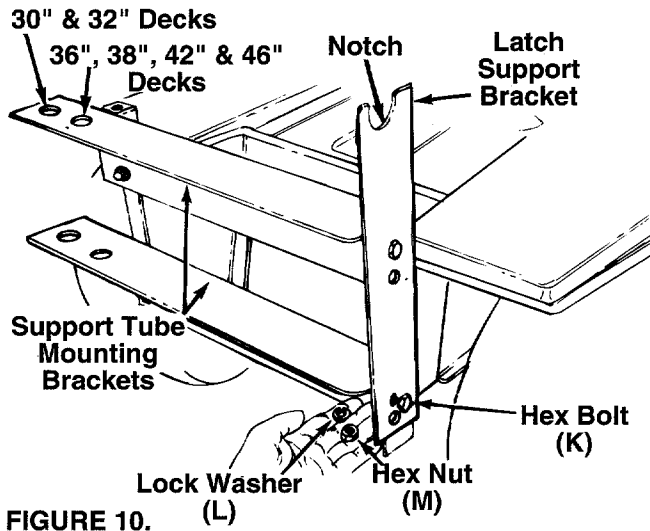
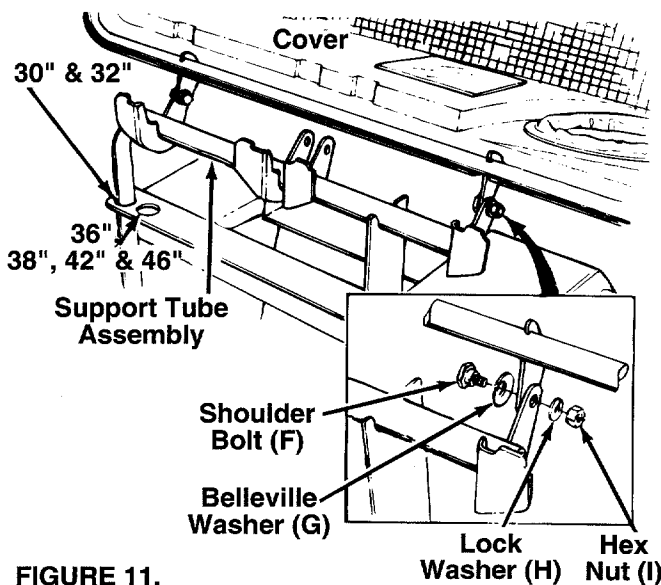

FIGURE 10.
FIGURE 11.
3. Assemble the latch support bracket to the right side of the support tube mounting brackets using the **upper** set of holes in the latch support bracket as shown in figure 10. Assemble so the notch in the top of the latch support bracket is toward the rear of the unit. Secure with two hex bolts (K), lock washers (L) and hex nuts (M).
1. Place the support tube assembly in position on the rear of unit by sliding the support tube down through the holes in the left side of tube mounting brackets. Use the inside hole for 36", 38", 42" and 46" decks. Use the outside hole for 30" and 32" decks. See figures 10 and 11.
2. Place belleville washers (G) on shoulder bolts (F) so that the crowned side of the washers is against the head of the shoulder bolt.
3. Place the cover in position against the brackets on the support tube assembly as shown in figure 11. (Allow the cover to rest on the seat of the lawn tractor for ease of assembly.) Line up the holes in the hinges of the cover with the holes in the support tube.
4. Insert the shoulder bolts (with washers attached) through the hinges on the cover and the support tube assembly. Heads of the shoulder bolts go toward the inside of the unit. Secure with lock washers (H) and hex nuts (I). Do not overtighten. Cover must be able to pivot on the support tube.